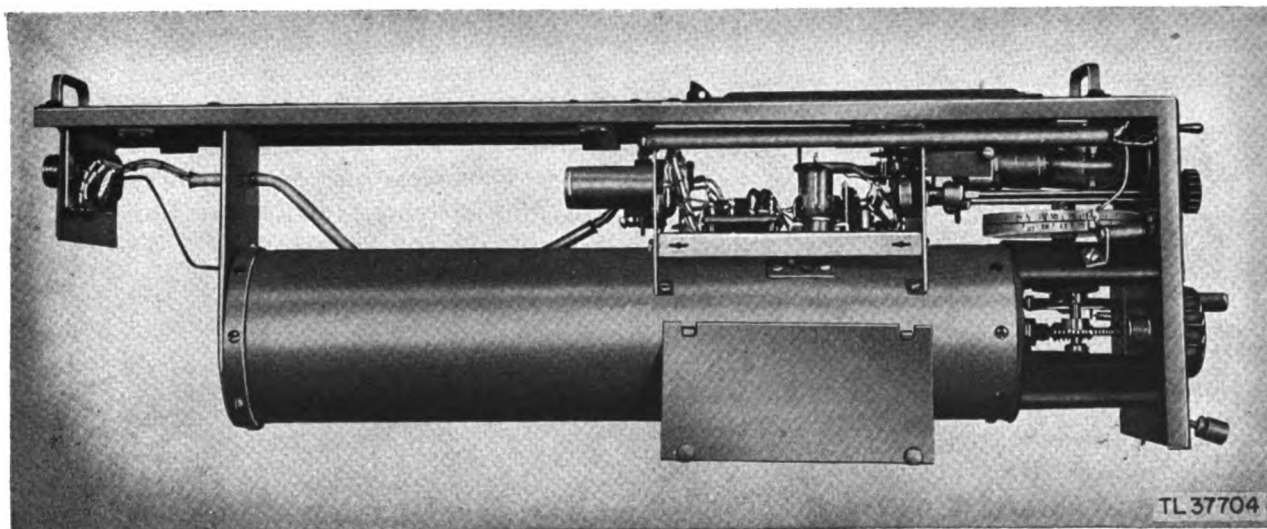

Figure 25. Wavemeter—under side.
(1) Inspect hinged panel and security of wavemeter chart.
(2) Tighten all mounting screws where necessary.
(3) Clean the top of wavemeter.
**ITC. UNDER SIDE OF WAVEMETER CHASSIS** (fig. 25).
(1) Inspect the tubes for proper seating in their sockets, including those in oscillator compartment. Remove side plates to make oscillator compartment accessible (par. 22).
(2) Inspect tuning gear assembly for corrosion.
(3) Inspect tuning gear assembly for mechanical operation.
(4) Inspect the pilot lamp for proper seating of bulb in its socket.
(5) Inspect the cable connector pins for corrosion.
(6) Inspect fastening of wavemeter diagram on inside of top panel for security.
(7) Inspect the bodies of resistors and capacitors with pig-tail connection for excessive discoloration (pars. 23 and 24).